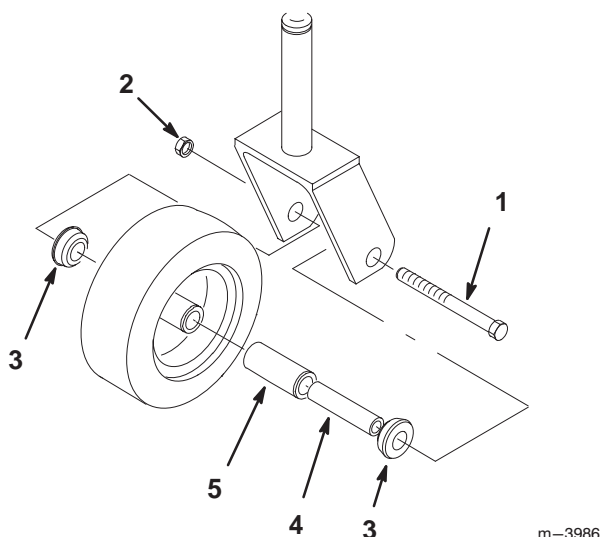

Figure 62
1. Remove the locknut and wheel bolt holding the castor wheel to the castor fork (Fig. 62).
2. Remove one bushing, then pull the spanner bushing and roller bearing out of the wheel hub (Fig. 62).
3. Remove the other bushing from the wheel hub and clean any grease and dirt from the wheel hub (Fig. 62).
4. Inspect the roller bearing, bushings, spanner bushing and inside of the wheel hub for wear. Replace any defective or worn parts (Fig. 62).
- To assemble, place one (1) bushing into the wheel hub. Grease the roller bearing and spanner bushing and slide them into the wheel hub. Place the second bushing into the wheel hub (Fig. 62).
- Install the castor wheel into the castor fork and secure with the wheel bolt and locknut. Tighten the locknut until the spanner bushing bottoms against the inside of the castor forks (Fig. 62).